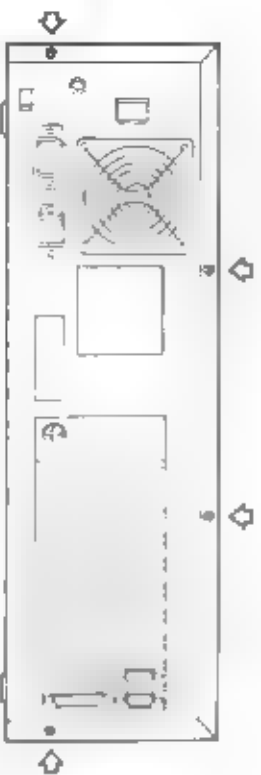

Figure 3-3 Removing the Fastening Screws
2. Using a Phillips screwdriver, remove the six cover fastening screws, four screws and a lock washer from the rear panel of the system unit, as shown in Figure 3-3, and one screw on each side near the bottom front corner of the cover
4. Replace the six cover fastening screws, four in the rear panel of the system unit (Figure 3-3) and one on each side. Use the lock washer with one of the top screws on the rear panel.